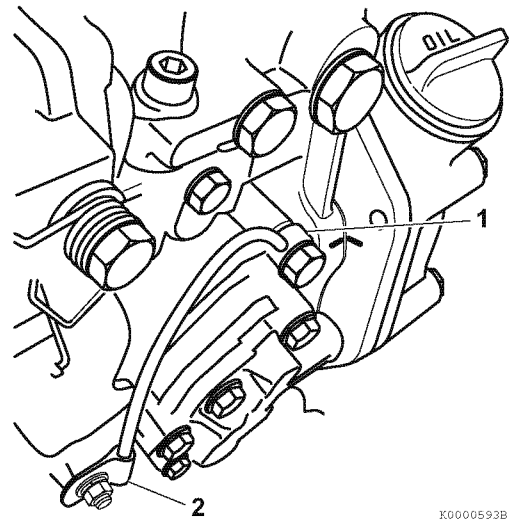

Figure 7-8
12. Disconnect the lube oil line (1, **Figure 7-8**) and the clamp (2, **Figure 7-8**) from the pump.